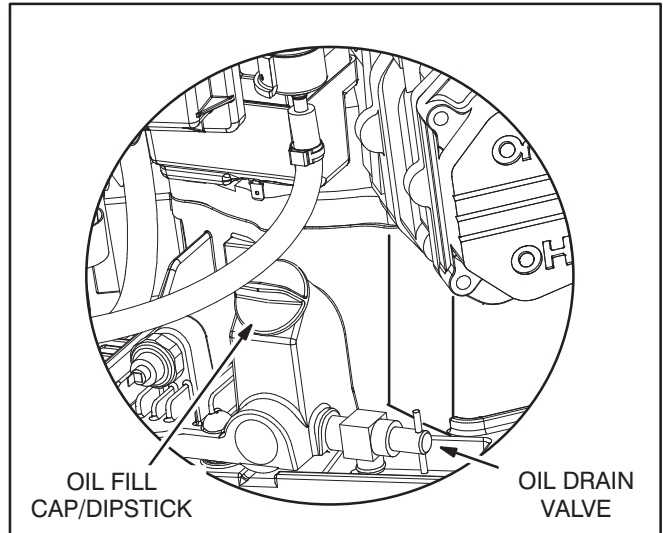

FIGURE 10. OIL FILL/DIPSTICK AND DRAIN VALVE
1. Unscrew the oil fill cap and wipe oil off the dipstick (Figure 10). Screw the cap back on, remove it and check the oil level on the dip stick.
2. Remove the oil fill cap, open the oil drain valve (Figure 10), let all oil drain from the engine and then close the drain valve.